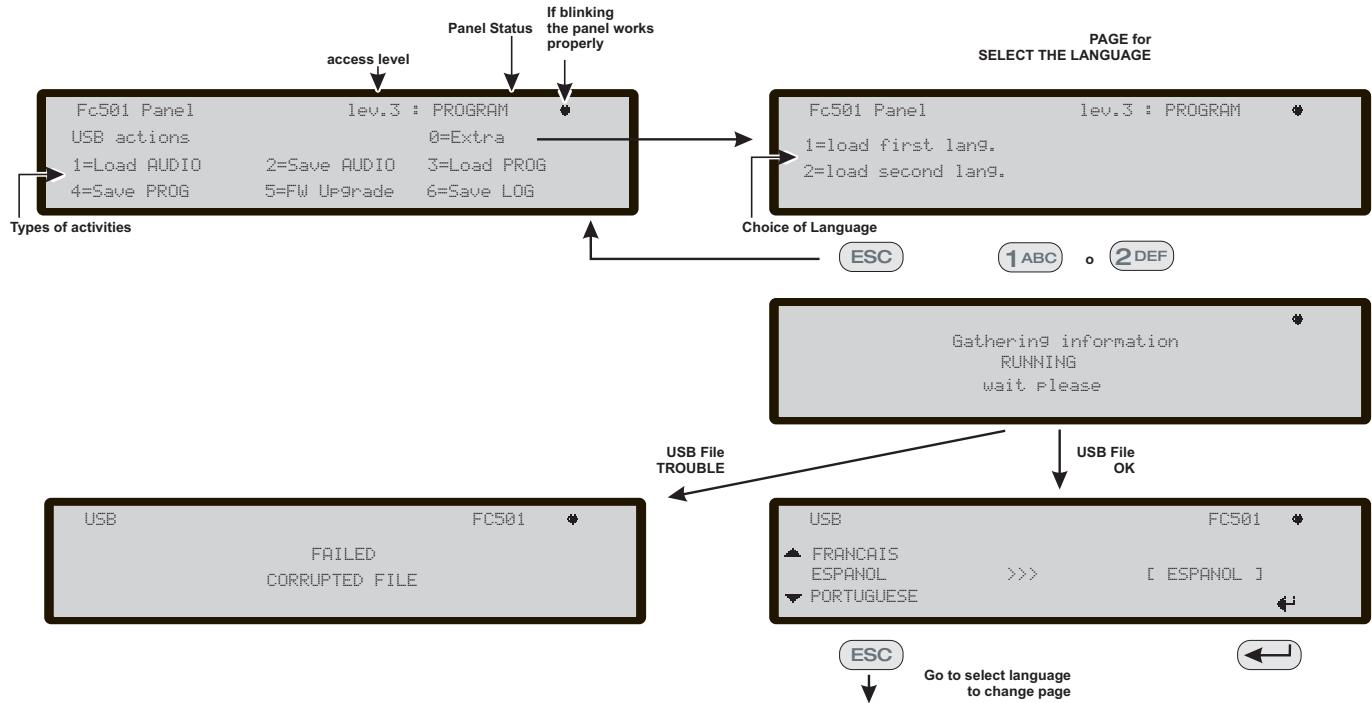

Figure 7 The scheme in the figure displays the LCD pages sequence required by this feature: "Language strings download during panel run time"
3. Press 0- EXTRA (see scheme on Figure 7).